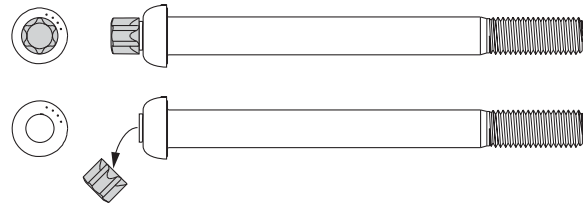

Figure 34: Shear style pivot bolt (Shown before and after shearing)
- Installer did not shear the bolt (Figure 34).